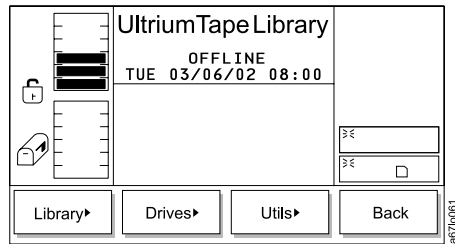

Figure 164. Setup Menu
2. Press the button below the **Setup** softkey. The Setup Menu displays (see Figure 164 on page 145).
- To return to the Setup Menu (see Figure 164 on page 145), press the button below the **Back** softkey.